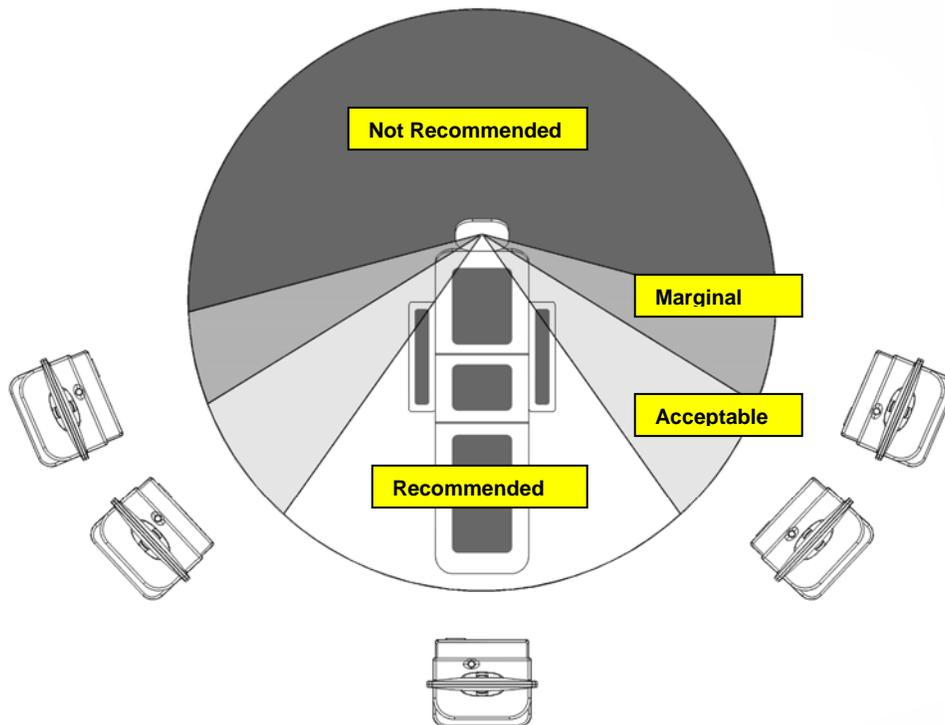

Figure 8. Antenna / Receiver Positioning Guidelines
- b. The Antenna / Receiver must face the front of the patient and be within 6 feet (1.8 meters) of the area where the Wireless Sensor will be used (**Figure 8**).